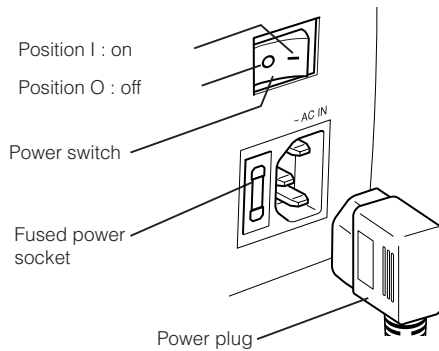

Fig. 13
**CAUTION: Connect the projector to a power supply with a nominal voltage within the following values: 100-240 Vac, 50/60 Hz. It must be earthed (Fig. 13).**